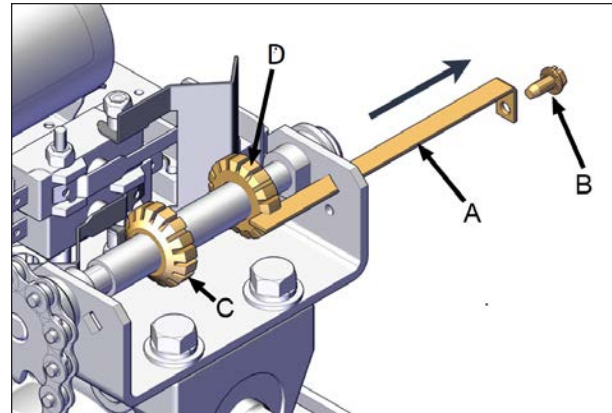

FIGURE 68: CAM PLATE REMOVAL
3. Remove the slotted retaining screw (item B, Figure 68) and slide the cam plate (item A,
Figure 68) out from the operator frame. Be careful not to rotate the cam wheels (items C and D, Figure 68).